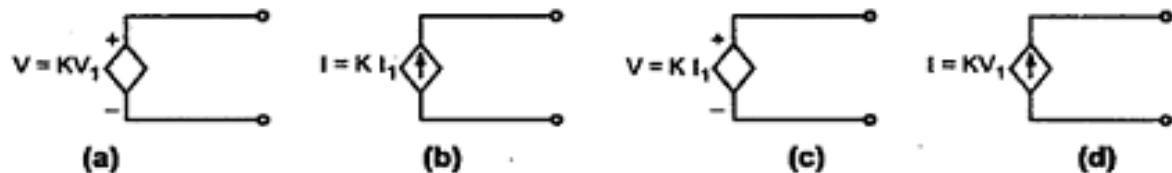

Fig. 2.10
Dependent sources are those whose value of source depends on voltage or current in the circuit. Such sources are indicated by diamond as shown in the Fig. 2.10 and further classified as,
i) **Voltage Dependent Voltage Source** : It produces a voltage as a function of voltages elsewhere in the given circuit. This is called **VDVS**. It is shown in the Fig. 2.10 (a).
ii) **Current Dependent Current Source** : It produces a current as a function of currents elsewhere in the given circuit. This is called **CDCS**. It is shown in the Fig. 2.10 (b).
iii) **Current Dependent Voltage Source** : It produces a voltage as a function of current elsewhere in the given circuit. This is called **CDVS**. It is shown in the Fig. 2.10 (c).
iv) **Voltage Dependent Current Source** : It produces a current as a function of voltage elsewhere in the given circuit. This is called **VDGS**. It is shown in the Fig. 2.10 (d).